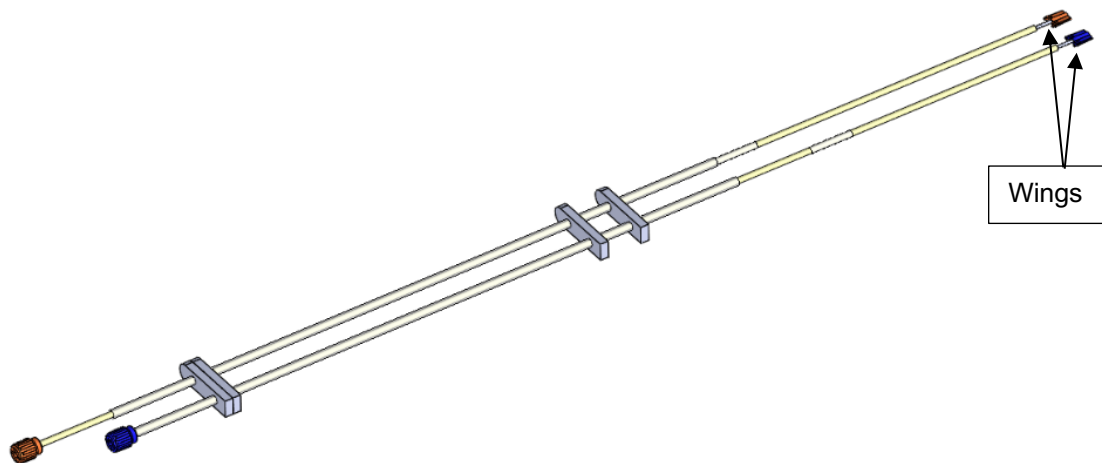

Figure 18: Thumbwheel Extension
1. Remove the Thumb Wheel Extension Set from its sterile barrier package. **See Figure 18.**